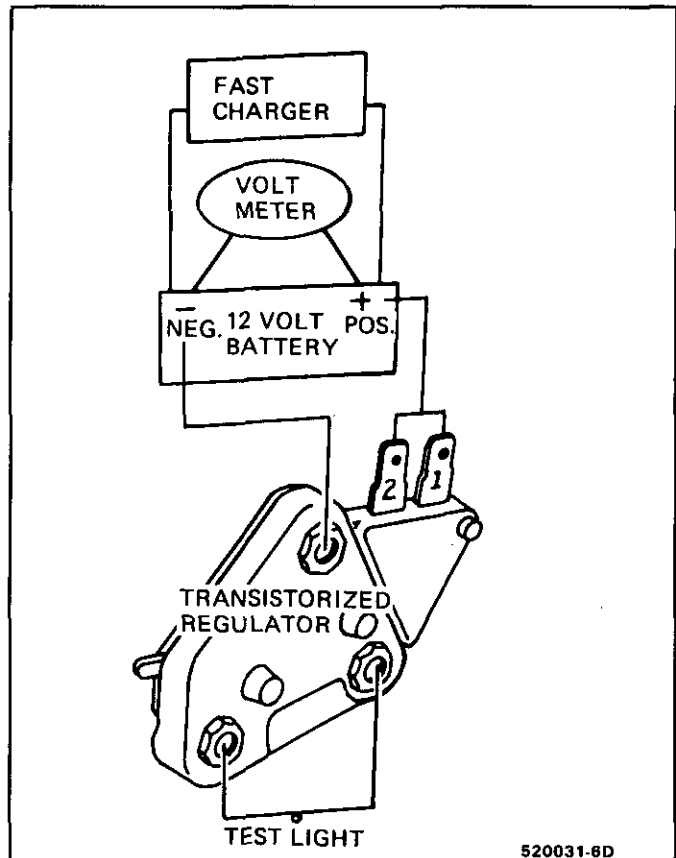

Fig. 24 Off-Car Voltage Regulator Test - SI
1. Connect voltmeter and fast charger to 12-volt battery as shown in Fig. 24.